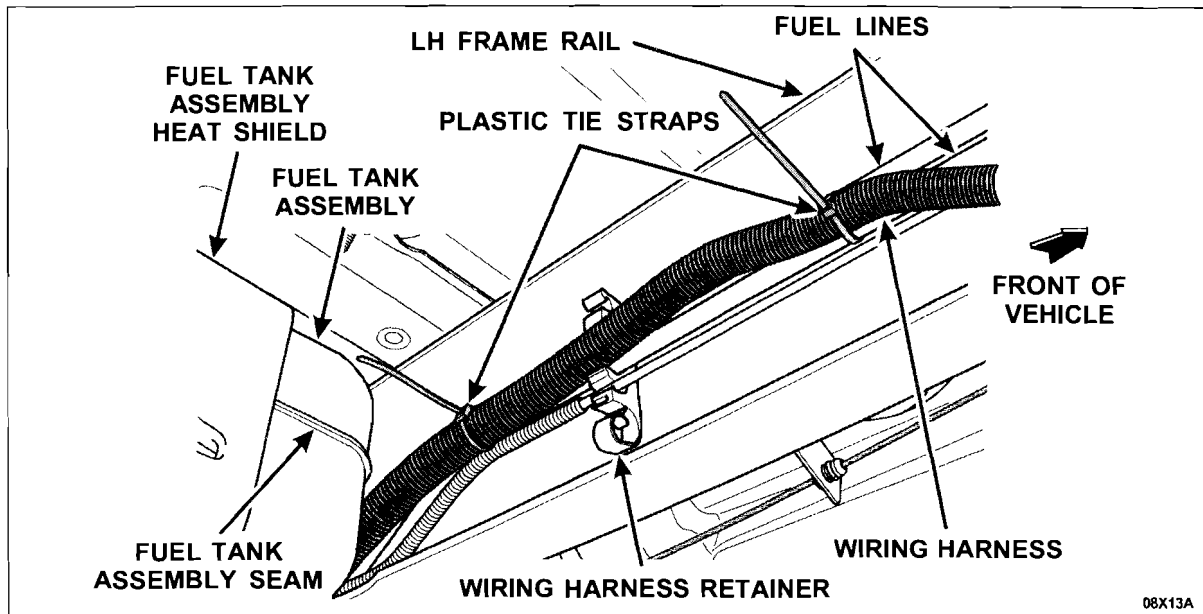

FIGURE 1
2. Release the wiring harness from the LH frame rail wiring harness retainer. Using 2 plastic tie straps, position and secure the wiring harness to the middle fuel line. See Figure 1.